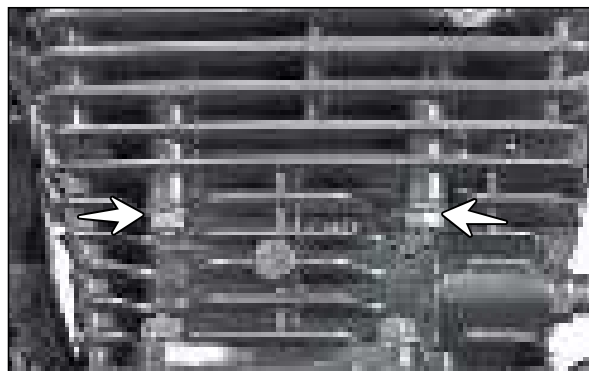

Fig. 3.38
- Remove the hexagonal flange nuts (2 Nos.) fastening the cylinder head assembly with the cylinder block. (Fig. 3.38)